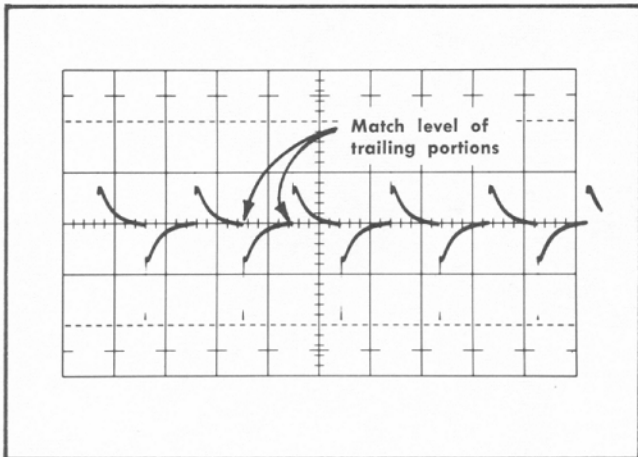
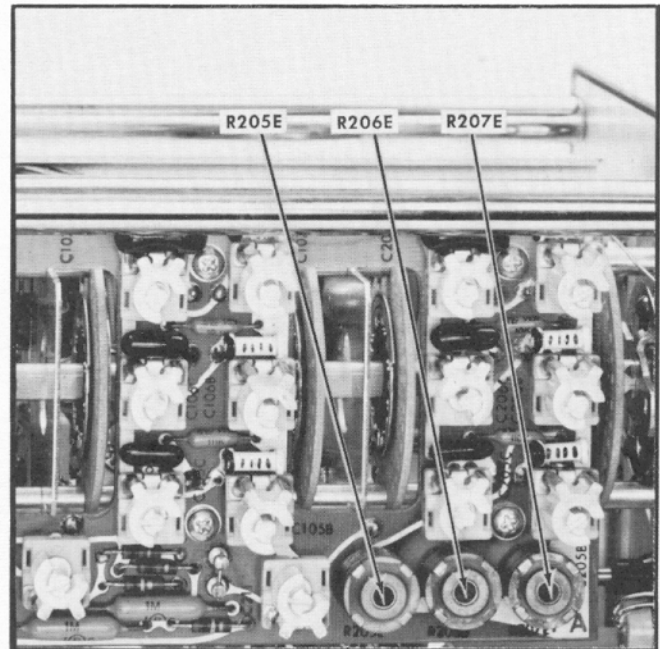

Fig. 6-33. Typical 1-kHz null display obtained when R205E is adjusted properly.
Fig. 6-34. Location of step 21 adjustments
- e. Check and adjust for optimum differential balance according to the information given in Table 6-3. Ignore the spikes on the waveform. The trailing portion of the cycles must match each other. Fig. 6-33 shows a typical display obtained when R205E is adjusted properly. The displays for the other positions of the VOLTS/CM switch will appear similar. See Fig. 6-34 to locate the adjustments.